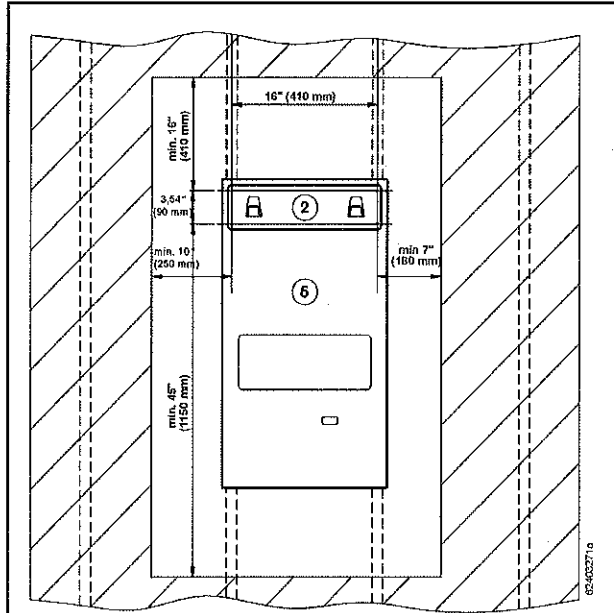

Figure 5A - Clearances for model BMS
The figures 5A and 5B show the proper distances to keep from any obstacle pertaining to the support bracket (2) or to the wall.
1) - Take the support bracket (2) and choose a position with proper clearances, as per Figures 5A & 5B. A minimum clearance of 40" (1000mm) is required from the front of the heater.